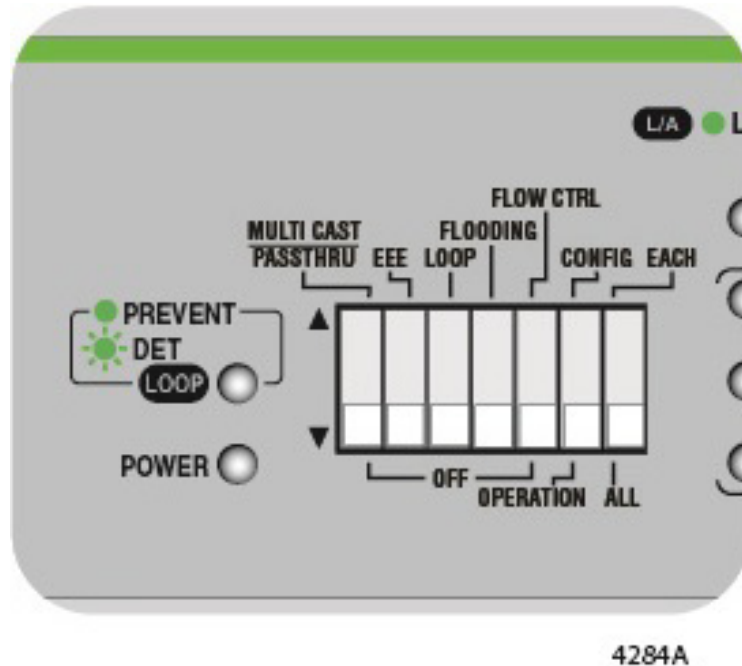

Figure 31. DIP Switch Settings for Disabling Multicast Frame Pass-Through
1. Set DIP switch # 1 to the DOWN position to disable this feature. See Figure 31.